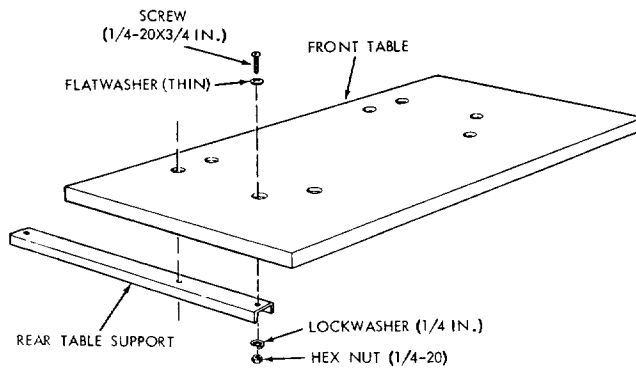

Figure 7
- Attach the two rear table supports to the front table. (See figure 7.) Use the counterbored holes nearest each side of front table and use hardware shown in figure 7. Adjust each rear support parallel to outside edge of table and tighten all four screws securely.